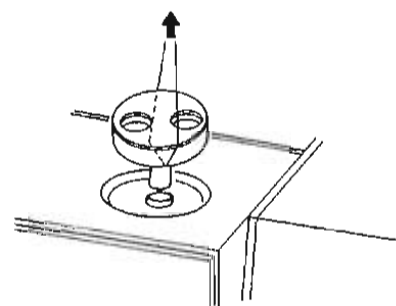

Fig. 3
- When removing the tuning knob, hang the string as shown in the Fig. 3 and pull it out.
- 2) After removing the nine screws (A), remove the front case by carefully lifting it from the rear case.